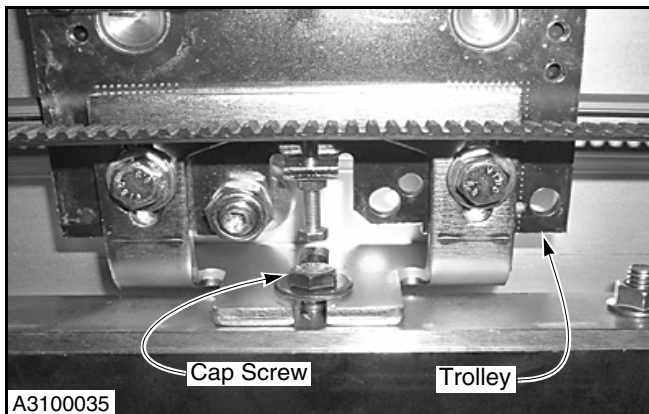

Figure 12
2. Loosen the door cap screw and remove the door. (See Figure 12.)